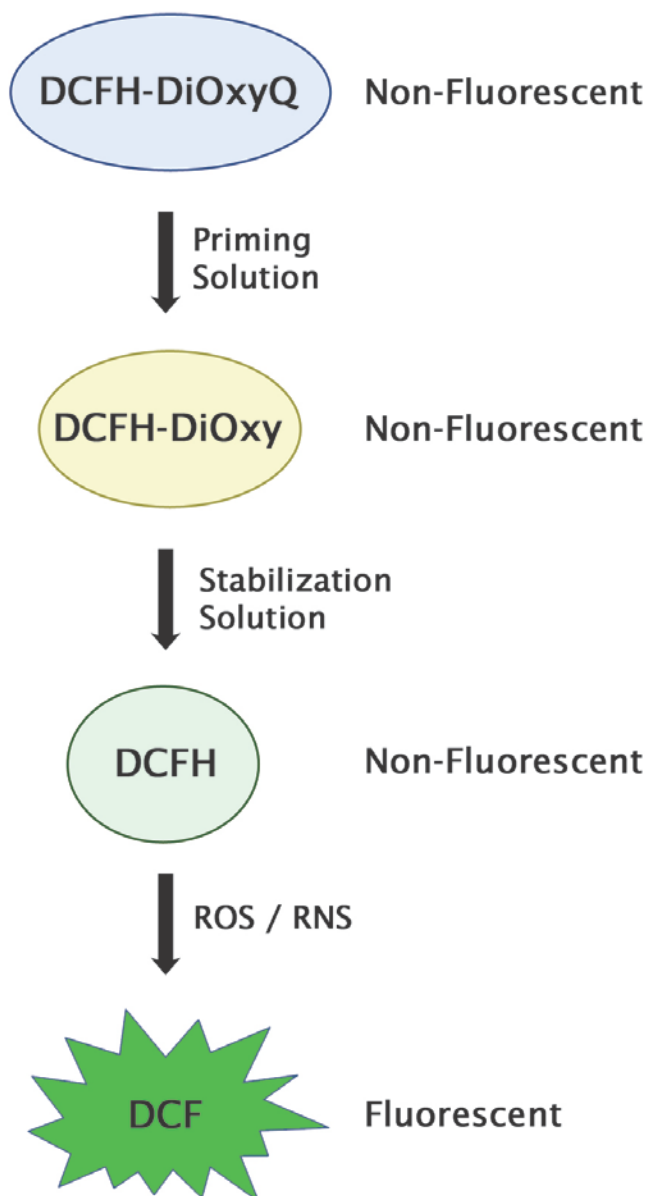

Figure 1. Mechanism of *In Vitro* ROS/RNS Assay
The OxiSelect™ *In Vitro* ROS/RNS Assay Kit is an assay for measuring the total free radical presence of a sample. The assay employs a proprietary quenched fluorogenic probe, dichlorodihydrofluorescein DiOxyQ (DCFH-DiOxyQ), which is a specific ROS/RNS probe that is based on similar chemistry to the popular 2', 7'-dichlorodihydrofluorescein diacetate. The DCFH-DiOxyQ probe is first primed with a quench removal reagent, and subsequently stabilized in the highly reactive DCFH form. In this reactive state, ROS and RNS species can react with DCFH, which is rapidly oxidized to the highly fluorescent 2', 7'-dichlorodihydrofluorescein (DCF) (Figure 1). Fluorescence intensity is proportional to the total ROS/RNS levels within the sample. The DCFH-DiOxyQ probe can react with hydrogen peroxide (H₂O₂), peroxy radical (ROO·), nitric oxide (NO), and peroxynitrite anion (ONOO⁻). These free radical molecules are representative of both ROS and RNS, thus allowing for measurement of the total free radical population within a sample. OxiSelect™ *In Vitro* ROS/RNS Assay Kit can also be used to evaluate antioxidant's effect on free radicals. The kit has a detection sensitivity limit of 10 pM for DCF and 40 nM for H₂O₂ respectively. Each kit provides sufficient reagents to perform up to 96 assays, including standard curve and unknown samples.